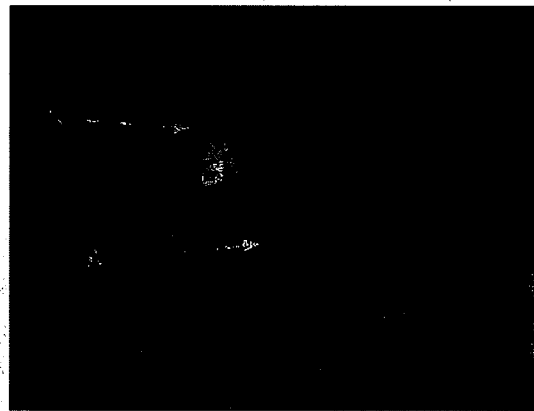

Figure 21
2. To adjust the angle of the back support portion of the seat, turn the lever located in the middle right position of the seat. Turning this clockwise will make the seat more vertical. Turning the knob counterclockwise will tilt the seat back. See figure 21 A.
3. To adjust the suspension of the seat for operator comfort, use the lever on the side of the back support section of the seat. This has three positions. The upper position is for light weight operators. The middle position is for medium weight operators. The bottom position is for heavy weight operators. See figure 21, B. **NOTE: The lever must be pressed firmly to change positions.**